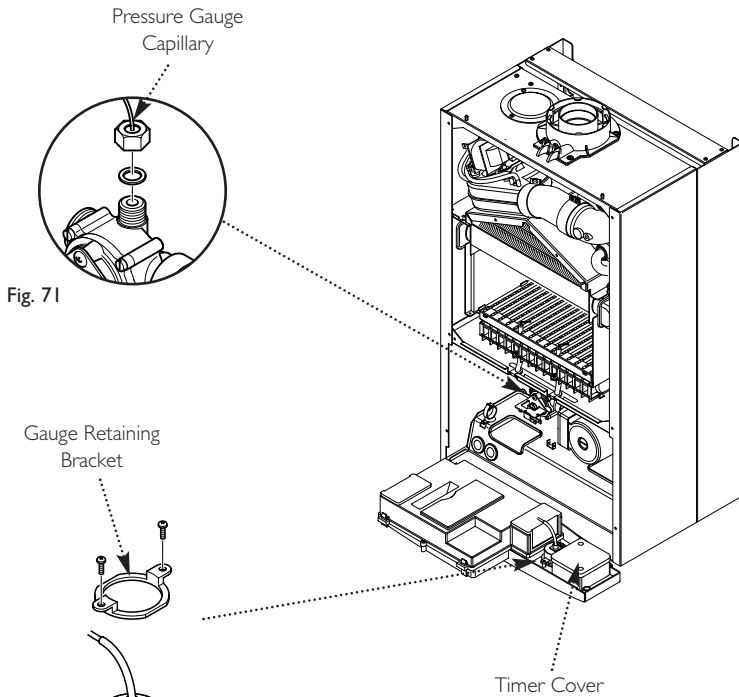

Fig. 71
14.15 Pressure Gauge (Figs. 71 & 72)